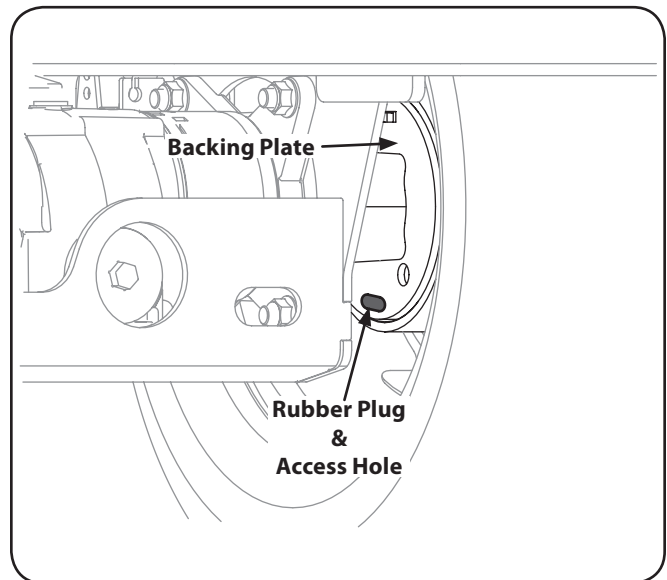

Figure 6-5
1. There is an access hole on the lower inside of the backing plate inside the rear tires. Locate this hole and remove the rubber plug to access the adjusting star on the brake shoes. See Figure 6-5.